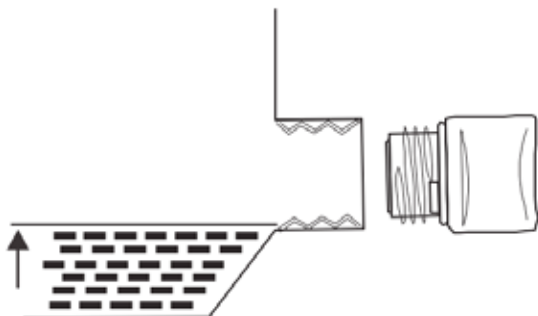

Figure 4: Engine oil correct level
3. Using the supplied funnel and oil, pour the entire bottle of oil into the engine. See correct oil level in Figure 4 below.
- The engine is filled with engine oil (see Figure 4: *Engine Oil Correct Level*).